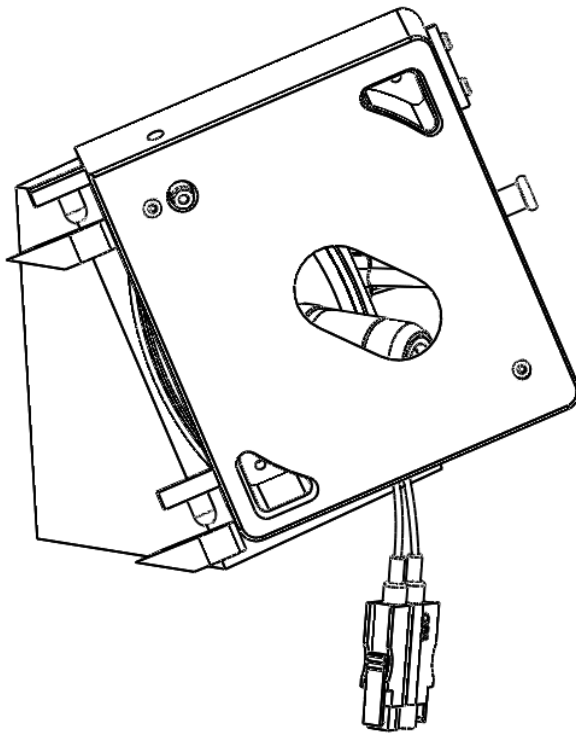

Figure 7: Hooking of SICRIT® MS Source housing.
- Hook on the housing by placing the mounting bolts in the guides of the MS (see Fig. 7).